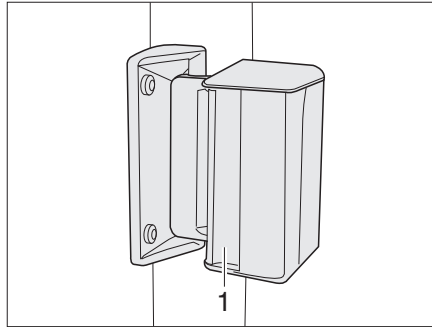

Fig. 62 Sliding window
- Press handle (Fig. 62,1) and push or pull it forward or backward at the same time.